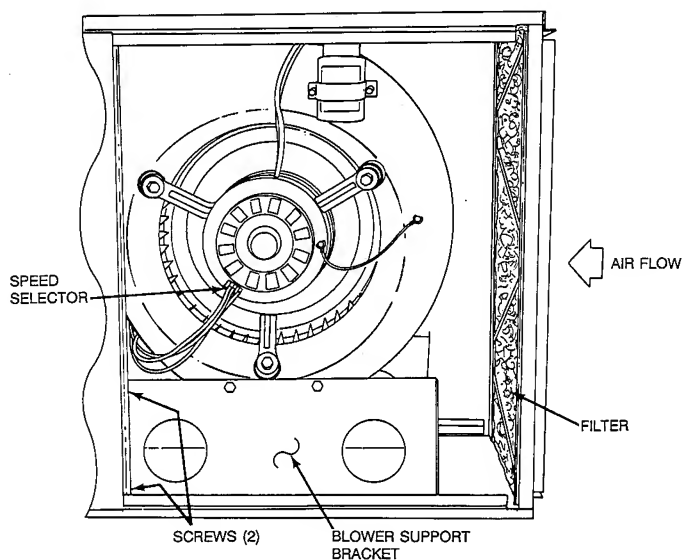

Fig. 2—Blower Compartment
The air filter arrangement may vary depending on the application. Each furnace may be supplied with a permanent, washable filter and wire filter retainer option. If so, the filter is normally located in the return-air plenum opening before the blower. (See Fig. 2.)
- a. Remove 4 screws securing front blower support bracket and remove bracket. (See Fig. 2.)
- b. Using a 3/8-in. ratchet with a 3-in. extension, reach through 4-in. diameter holes in rear blower support bracket and remove 2 screws securing bracket to blower shelf. (See Fig. 2.)
- c. Disconnect motor leads from motor speed selector. (See Fig. 2.)